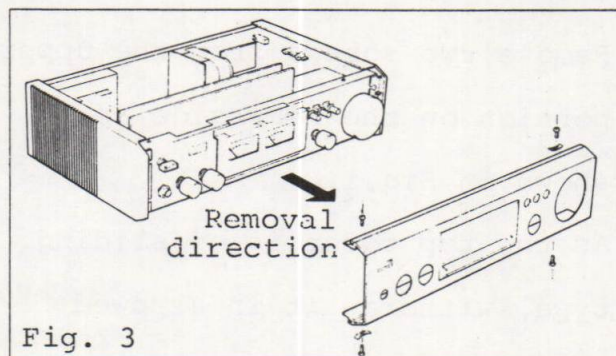

Fig. 3
- 2) Remove four screws as shown in Fig.3. (Each two screws at the upper and lower portions.)
- 3) Now, you can remove the front panel in arrowed direction shown in Fig.3. (Knobs remain attached.)